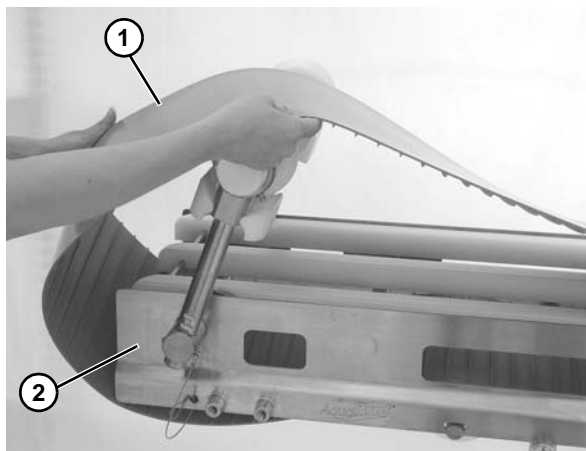

Figure 9
5. Slide the belt (Figure 9, item 1) on over the conveyor frame (Figure 9, item 2).